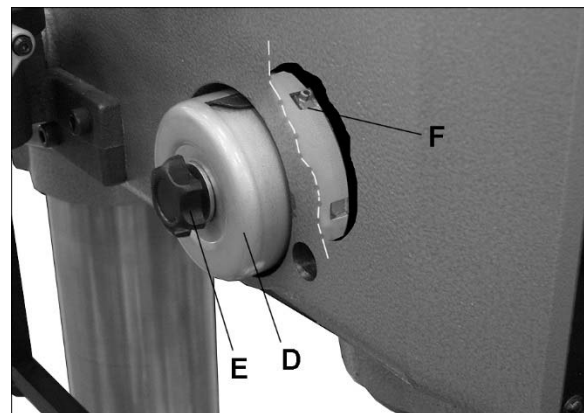

Figure 8-2: return spring adjustment
1. Do NOT remove spring cap (D, Figure 8-2).
2. Loosen knob (E) just enough to rotate spring cap past notch (F).
4. Re-tighten knob (E).